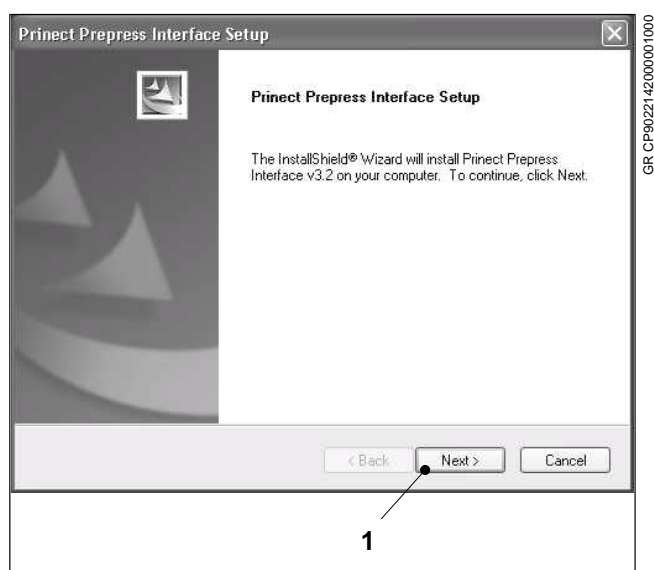
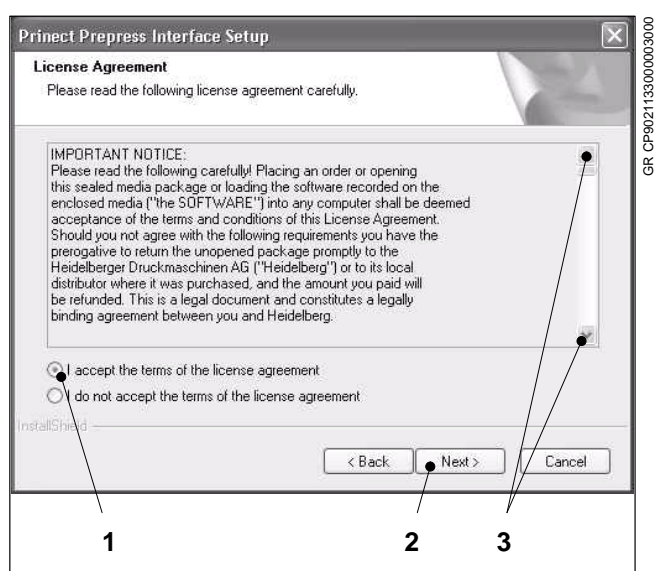
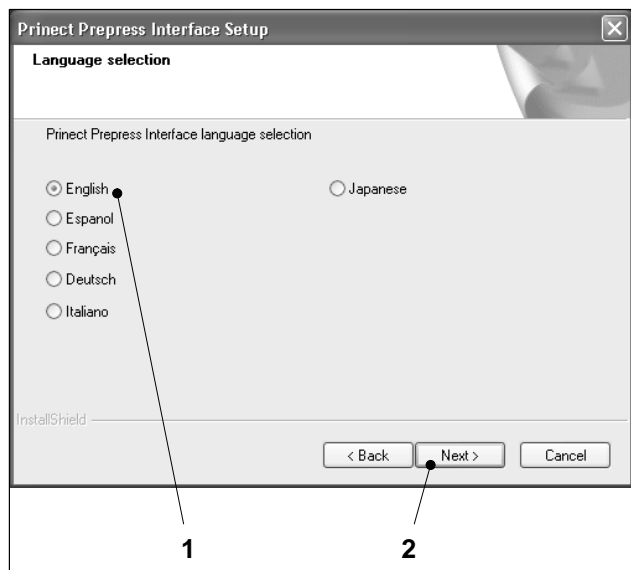

Fig. 5 The *Prinect Prepress Interface Setup* dialog window
Fig. 6 License Agreement
Fig. 7 Selecting the language of the user interface
If you have activated the *Autostart* function for your CD-ROM drive, you can skip steps 4 to 6. After a short time, the dialog window of the installation program is displayed automatically (Fig. 5).
After a short time, the first dialog window of the installation program is displayed automatically (Fig. 5).
7. Click on *Next* (Fig. 5) to continue the installation procedure. The dialog window with the License Agreement is displayed (Fig. 6).
8. Please read the license agreement. Use the arrow keys to scroll up or down the text so that you can read the complete text (Fig. 6/3).
9. If you accept the License Agreement, check the box *accept the items of the license agreement* (Fig. 6/1).
10. Click on *Next* (Fig. 6/2). A dialog window appears that allows you to set the language for the user interface (Fig. 7).
- Click on *English* (Fig. 7/1).
12. Click on *Next* (Fig. 7/2).